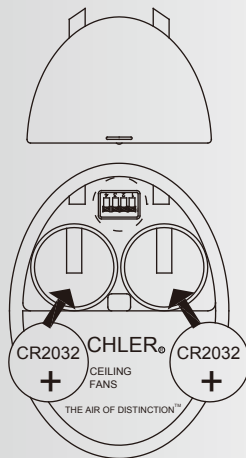

Fig. 25
Step 1. Install 2,3 volt # CR2032 battery included with the CoolTouch™ Control system and make sure they are seated correctly in each recess with the Positive + Sign facing up. Replace the battery cover. (Fig. 25)
Step 2. Test the transmitter by pushing and releasing ANY button. A Blue Light should illuminate, if not, check to make sure the batteries are inserted and seated correctly. (Fig. 25)